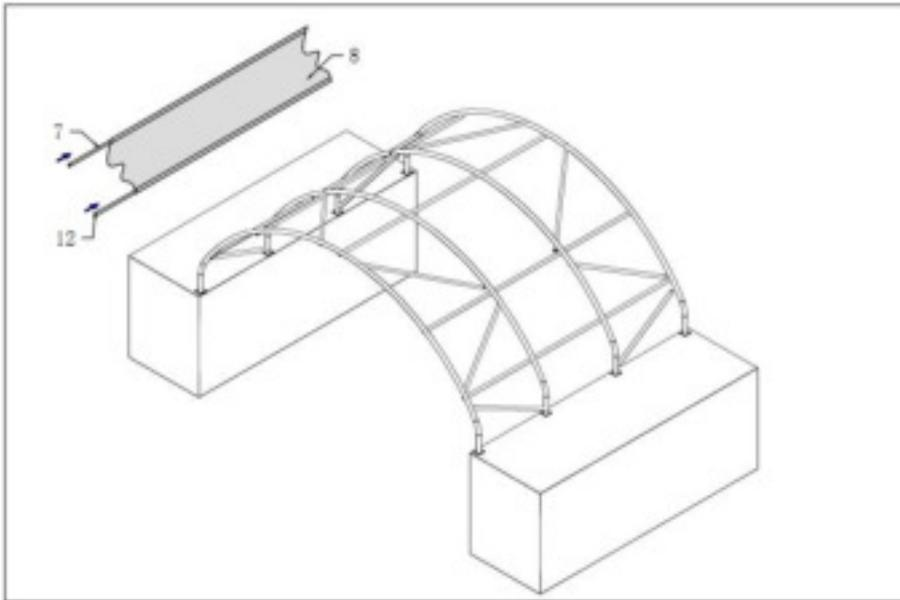

Figure 8
1. As **Figure 8** shown, before assembly the roof cover, please insert the lower tensioning tube (part code 7) into the pockets on end of the roof cover. And also put on the plastic plug.(part code 12).